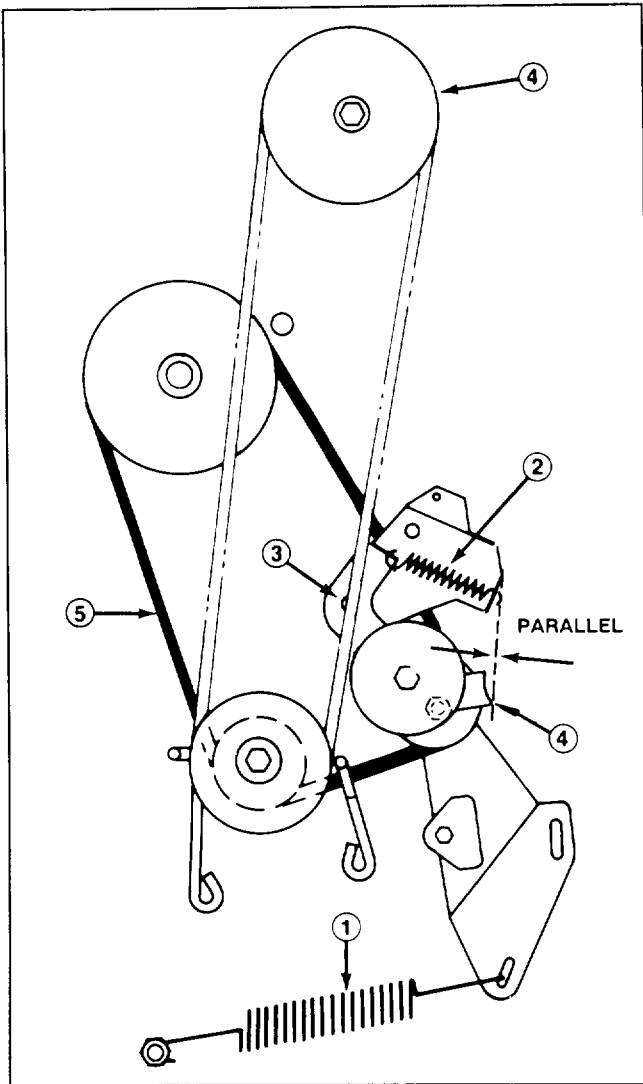

Figure 22
7. Unhook large traction spring from mounting screw (Fig. 22). Use caution when removing spring as it is heavily tensioned.
8. Unhook idler spring from idler bracket (Fig. 22).
9. Remove locknut and washer securing idler bracket to frame and remove bracket (Fig. 22).
10. Loosen the locknut on pulley until belt guide can be removed (Fig. 22). Remove belt from all pulleys.
**Note:** When reinstalling belt guide to idler pulley, make sure edge of belt guide is parallel to frame as shown in Figure 22.